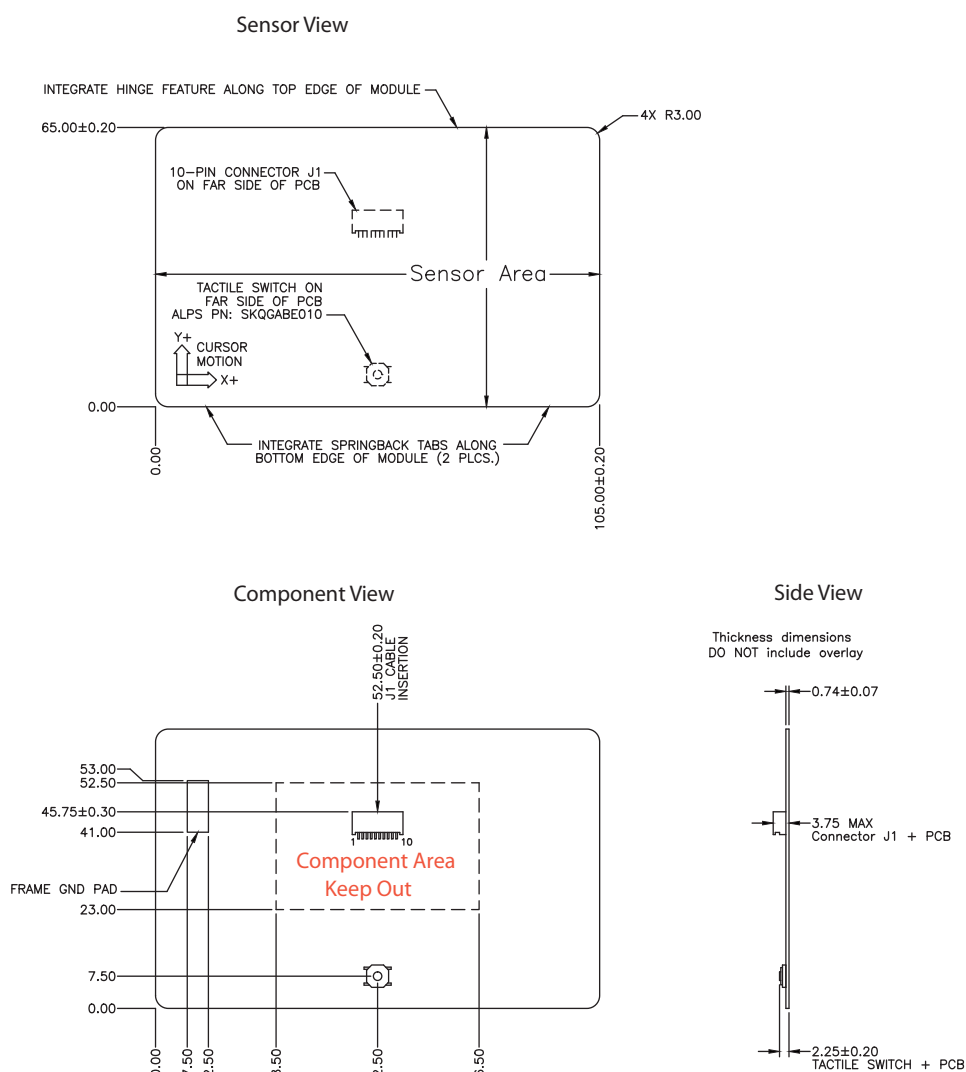

Figure 2. TM105065-2 Physical Dimensions - Sensor, Component, and Side Views
**Note:** Please see Figure 2 on page 8 for a detailed drawing of the TM105065-2 module
This section provides the dimensions of the TM105065-2 (Figure 2). These dimensions do not include an overlay.